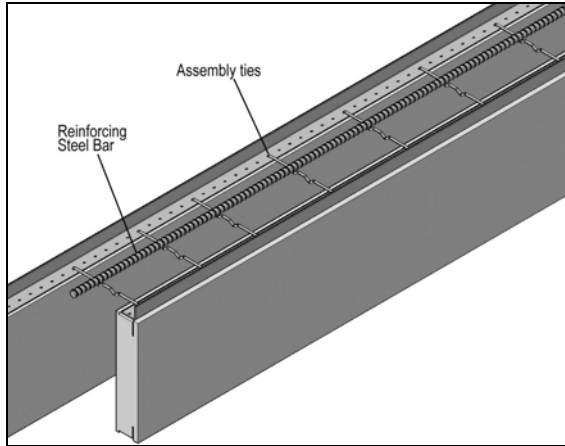

Figure 6.4.a Disposition of the reinforcing steel bar
- Place the horizontal reinforcing steel bars on the notch of the assembly ties (Figure 6.4.a)